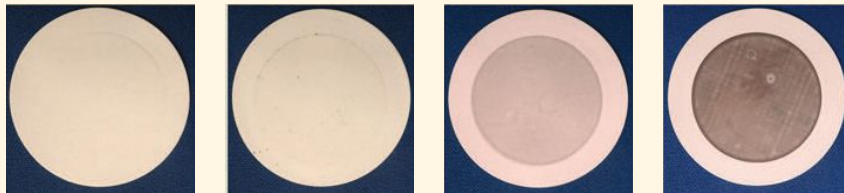

Figure 1. Sample report: ASTM D4898-16: Gravimetric analysis for insoluble contamination of hydraulic fluids. (Figure courtesy of Engineered Lubricants Co.)
1. **Gravimetric.** This draws the fluid sample, often pre-diluted with a solvent, through a media of different types and micron ratings; the selection is dependent on type of fluid or volume of contamination expected and size of particulate through the media; it then is dried and weighed. Further analysis can be done by observation under magnification to determine particulate composition, size shape, etc. This testing is common for heavily contaminated fluids such as used metalworking fluids or engine oils (see Figure 1).